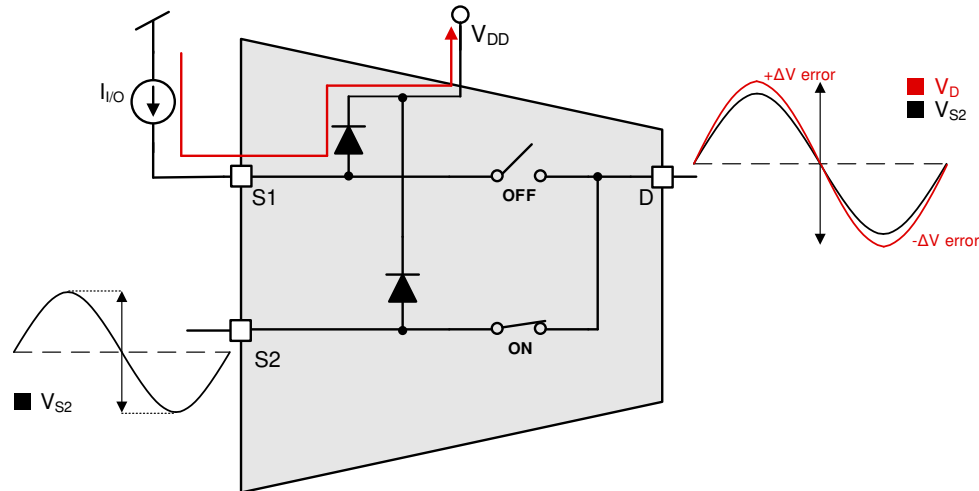

**Figure 9-1. Simplified Diagram of Typical CMOS Switch and Associated Injected Current Path**
**Injected Current Impact:** typical CMOS switches have ESD protection diodes on the inputs and outputs. These diodes not only serve as ESD protection but also provide a voltage clamp to prevent the inputs or outputs going above  $V_{DD}$  or below GND and  $V_{SS}$ . When current is injected into the pin of a disabled signal path, a small amount of current goes through the ESD diode but most of the current goes through conduction to the drain. If forward diode voltage of the ESD diode ( $V_F$ ) is greater than the PMOS threshold voltage ( $V_T$ ), then the PMOS of all OFF switches turns ON and there would be undesirable subthreshold leakage between the source and the drain that can lift the OFF source pins up also. Figure 9-1 shows a simplified diagram of a typical CMOS switch and associated injected current path.